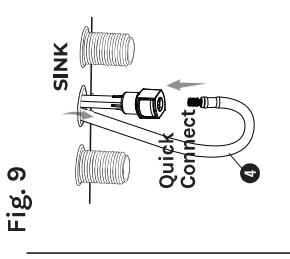

Fig. 9
6. From below the sink, push the **black end of the Spray Hose** 4 into the middle hose connection on the faucet until it clicks (see Fig. 9).